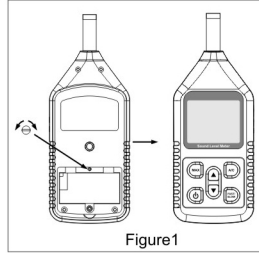

Figure 1
3. Turn on the Calibrator and adjust the Protentiometer inside the battery compartment of the unit (shown in the Figure 1), until the LCD display the desired Level 94.0dB.